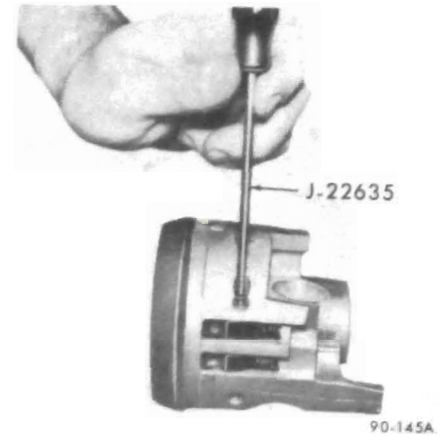

Figure 90-145 - Removing Lock Shoe Pivot Pin
4. Remove tilt release lever pin with J-22635 and hammer. Remove lever and release lever spring. (To relieve load on release lever, hold shoes inward and wedge block between top of shoes (over slots) and bearing housing). See Figure 90-145.